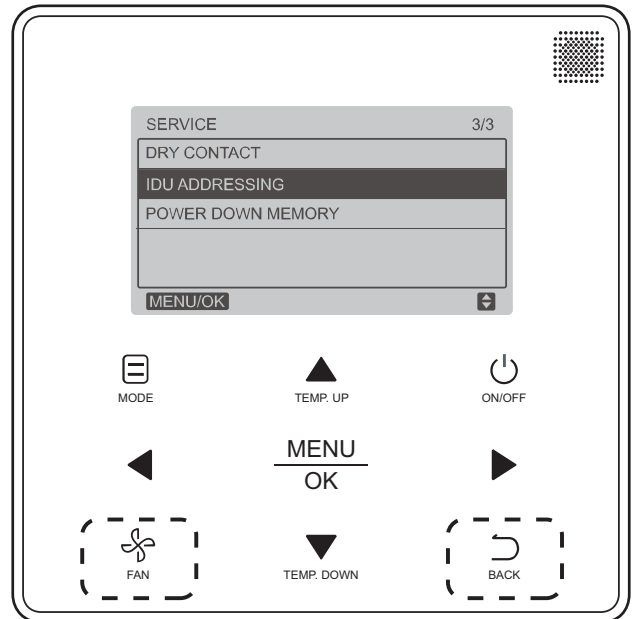

Fig. 27 —Programmable Controller IDU Addressing Menu
1. Press FAN and BACK simultaneously for five seconds to access parameter settings as shown in Fig. 27.